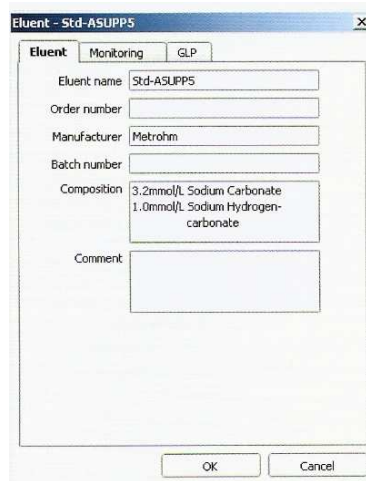

Figura 9.3 – Janela do software Magic Net IC, eluent.
- Preencher os campos conforme a Figura 9.3: